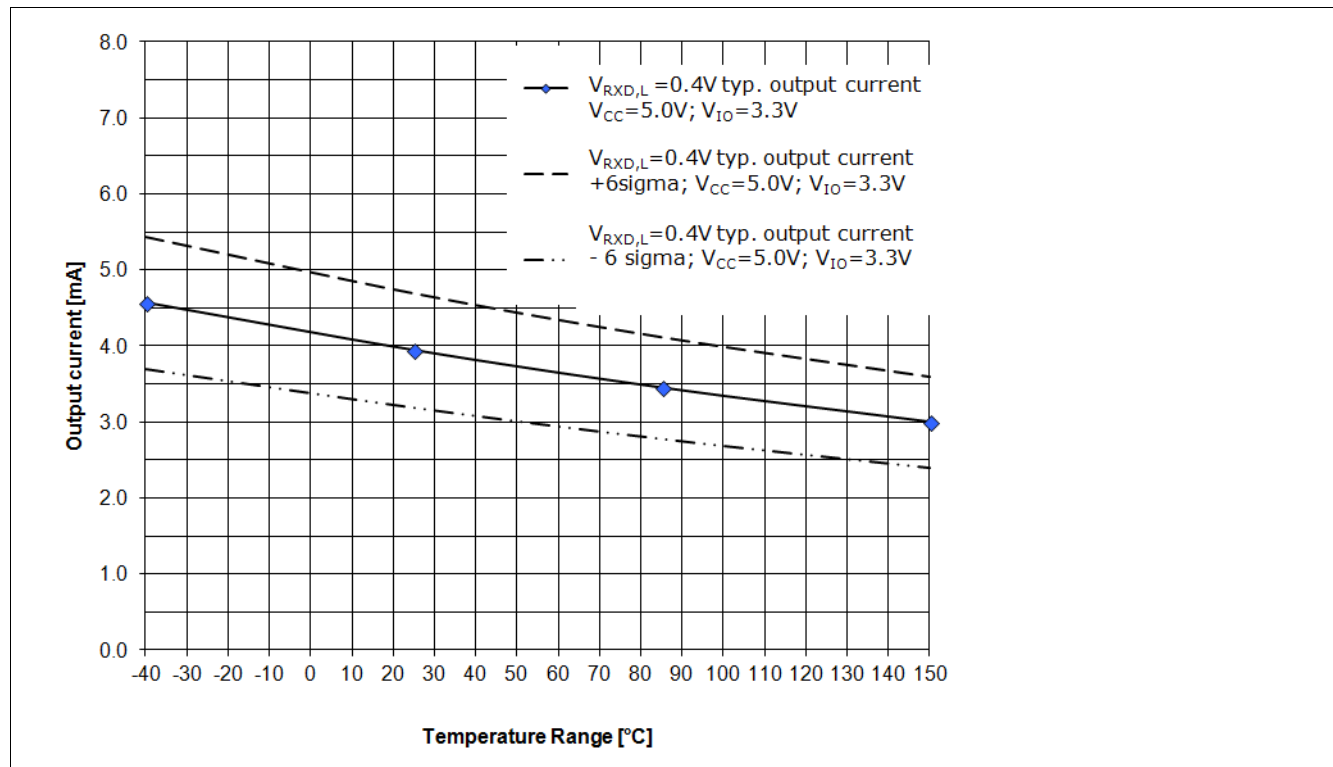

Figure 14 RxD Output driver capability for a logical “Low” signal  $V_{RxD,H}=0.4\text{ V}$ ,  $V_{CC}=5.0\text{ V}$ ,  $V_{IO}=3.3\text{ V}^1)$
The diagram in Figure 13 and the diagram in Figure 14 show the current capability of the RxD output pin depended on the chip temperature  $T_J$ . Figure 13 shows the current capability of the RxD output pin at a  $V_{IO}$  power supply of 5.0 V and Figure 14 shows the current capability of the RxD output pin at a  $V_{IO}$  power supply of 3.3 V.
- The curve “VRxD,H = 0.4 V; **typ. output current**; VCC = 5.0 V; VIO = 3.3 V;” displays the typical output current at the RxD output pin of the TLE8250GVIO (see Figure 14).
- The curve “VRxD,H = 0.4 V; **typ. output current + 6 sigma**; VCC = 5.0 V; VIO = 3.3 V;” displays the expected maximum value of the output current at the RxD output pin (see Figure 14).
- The curve “VRxD,H = 0.4 V; **typ. output current - 6 sigma**; VCC = 5.0 V; VIO = 3.3 V;” displays the expected minimum value of the output current at the RxD output pin (see Figure 14).